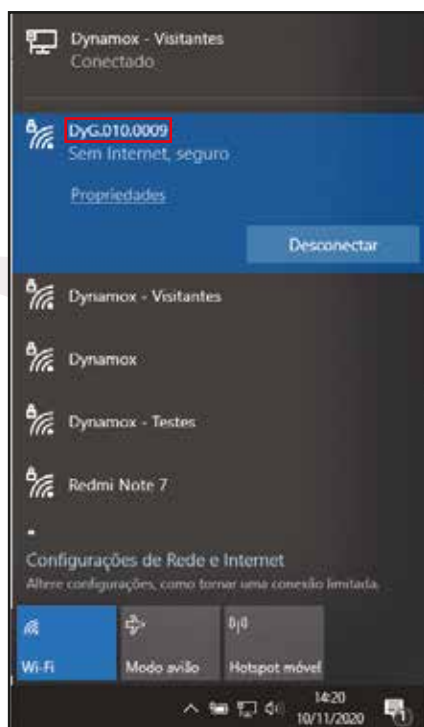

Figure 3 - Wifi network of the device.
2. On a computer close to the DynaGateway, connect to the Wifi network generated by the device (Figure 3), identified as: